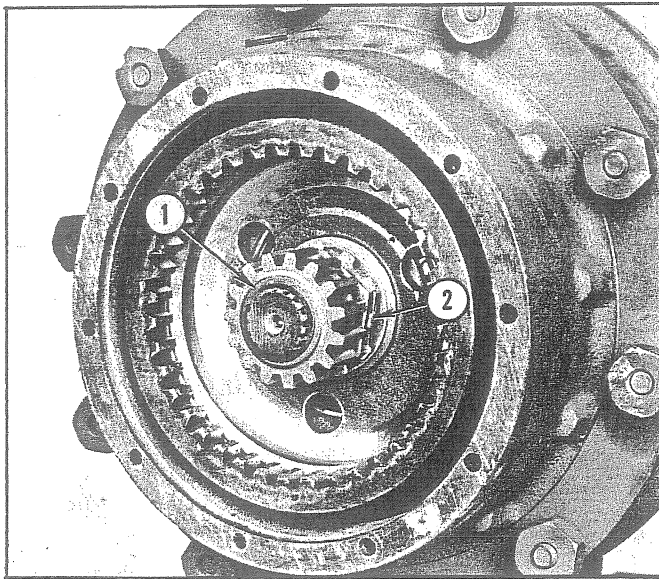

Fig. 103 - View Showing Sun Gear and Lock on Spindle Nuts
22. Install spindle nut lock and outer spindle nut. Tighten outer nut securely to hold inner nut in place -- then bend tangs on the nut lock, No. 2, Fig. 103, so that both spindle nuts will be locked in position.
23. Slide sun gear over splines on axle shaft and secure gear with retaining ring, No. 1, Fig. 103.